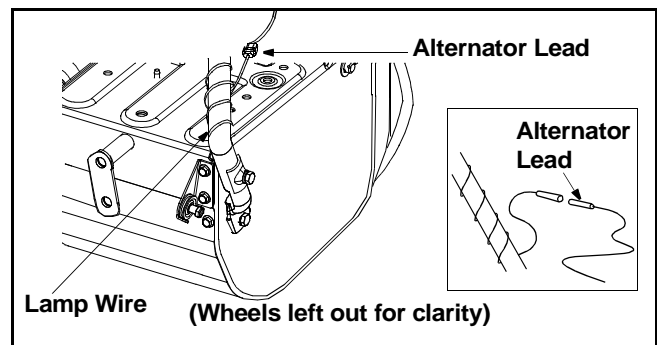

Figure 6
- Unwrap the headlight wire which is attached to the headlight, beneath the handle panel. Wind the headlight wire around the lower right handle until excess slack is removed. See Figure 6.